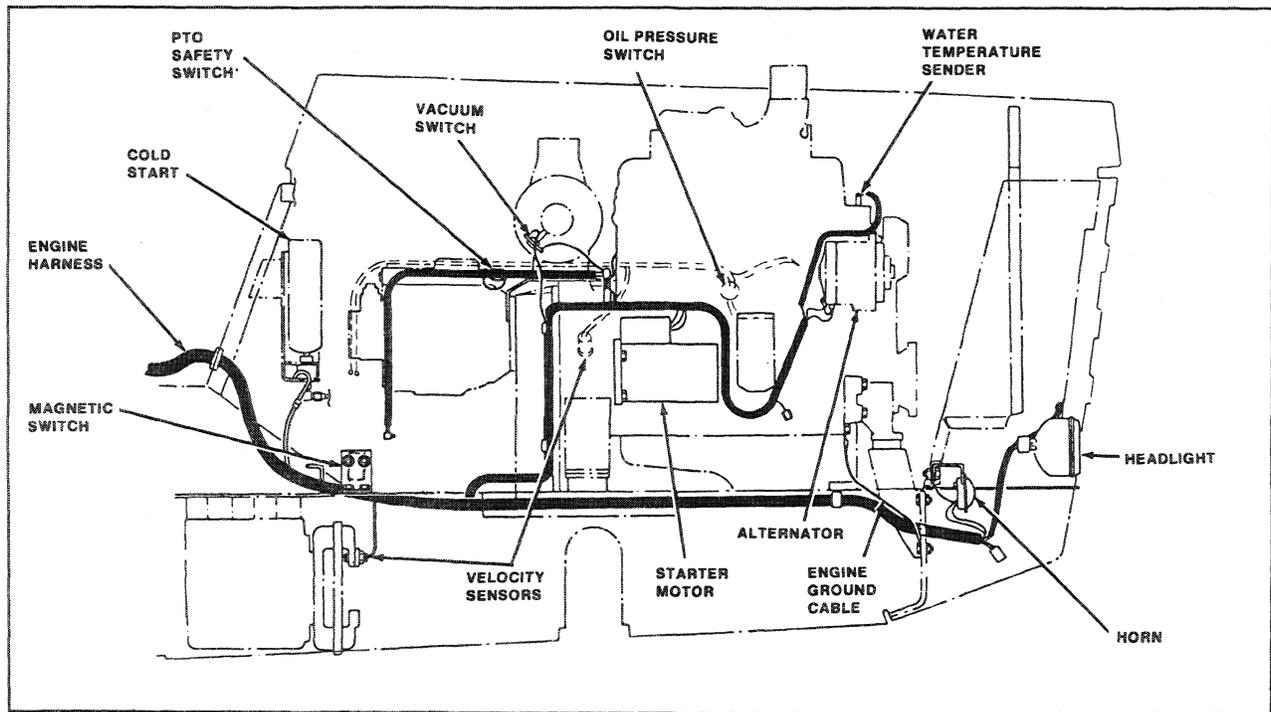

FIGURE 2-2: Engine Electrical Harnesses Removal
2. Disconnect harnesses from electrical accessories (Figure 2-2).